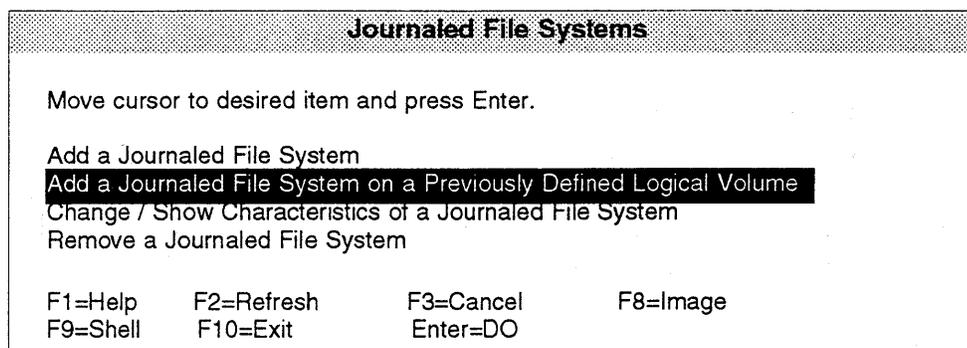

Figure 4-19: Journaled File Systems Menu
- 3 Select "Journaled File Systems" and the menu will appear as shown in Figure 4-19.